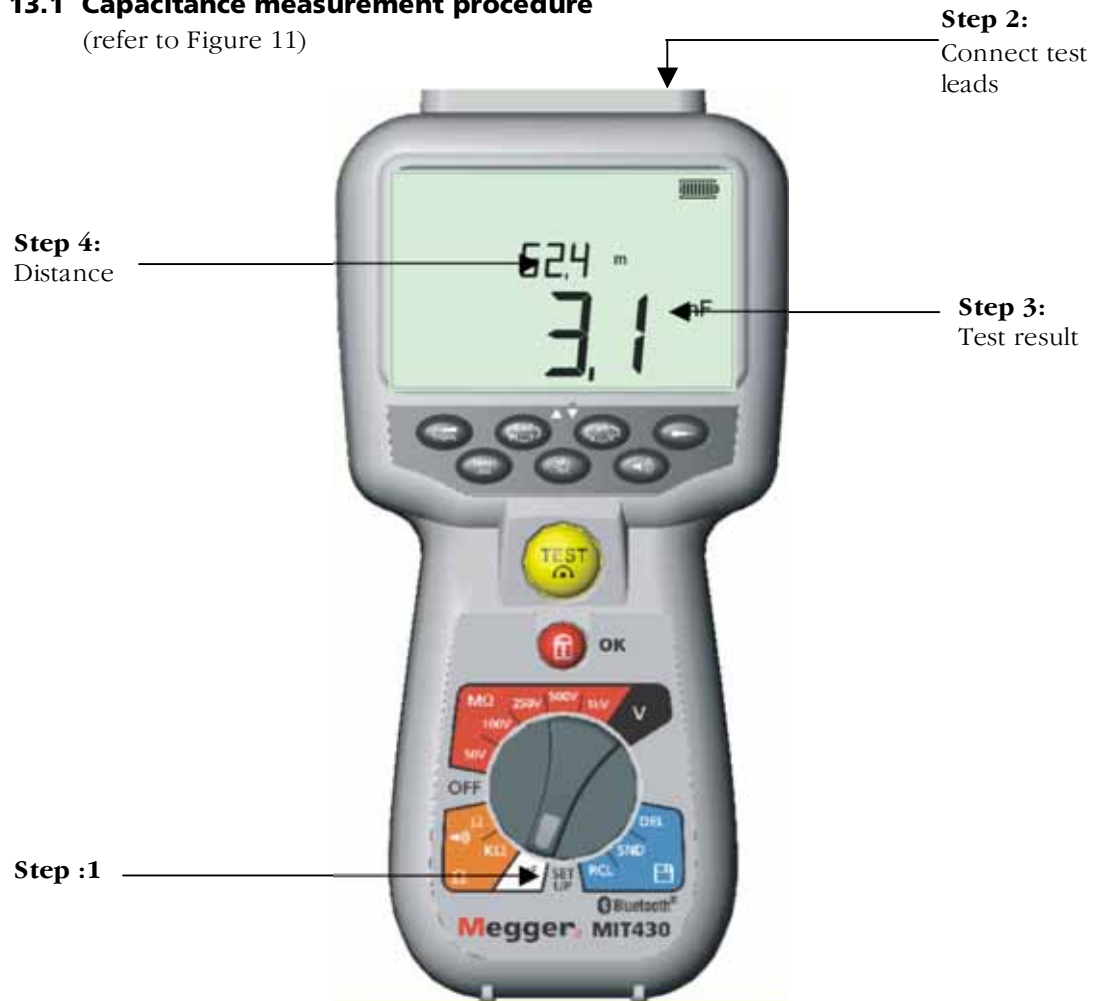

Figure 11 Capacitance range
13.1 Capacitance measurement procedure (refer to Figure 11)